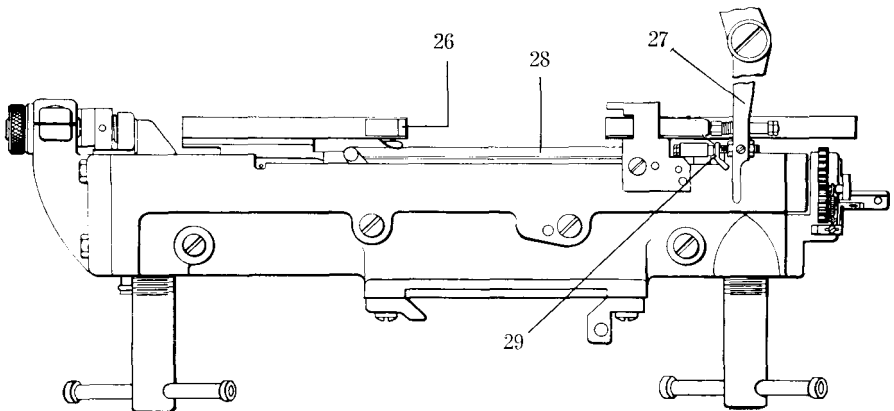

FIG. 6-32. View of the vise cap and vise jaws showing the vise jaw left-hand safety detent and the pump stop operating lever.
**Left-Hand Vise Jaw Detent Operating Lever**—This operating lever 26, Figs. 6 and 7-32 and associated parts contained in the left-hand vise jaw should be kept clean and free from small particles of metal, which may prevent free operation. It is the pressure of the matrices against the lever 26 that operates the pump stop lever operating lever 27, Fig. 6-32, through the movement of the safety detent bar 28, Fig. 6-32.
The safety detent operating lever should always extend beyond the face of the vise jaw after the matrices have risen from between the vise jaws. If this lever remains flush with the face of the vise jaw or remains depressed, the pump stop lever will be open, which would allow machine to cast with a short line or with the jaws open. The detent bar 28, Fig. 6-32, must be parallel with the vise cap. If this bar becomes bent or damaged, it should be straightened or replaced with a new one otherwise the pump stop lever operating lever will not function properly.